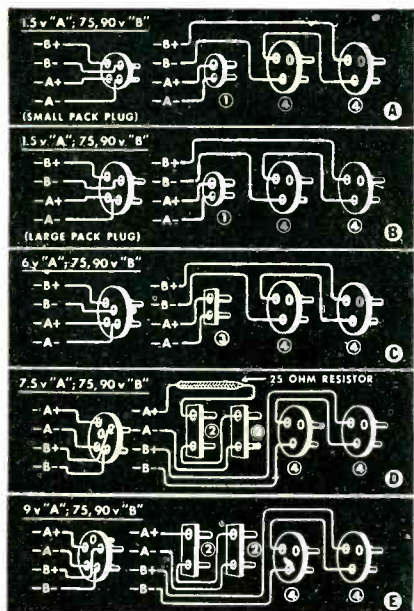

Fig. 5. Connection diagrams for other types of "A-B" pack plugs are shown here.
7.5	(2) 746*	2 ²⁹ / ₃₂	1 ¹ / ₁₆	4 ¹ / ₁₆	2
9.0	(2) 746	2 ²⁹ / ₃₂	1 ¹ / ₁₆	4 ¹ / ₁₆	2
** See Figs. 5 and 6.